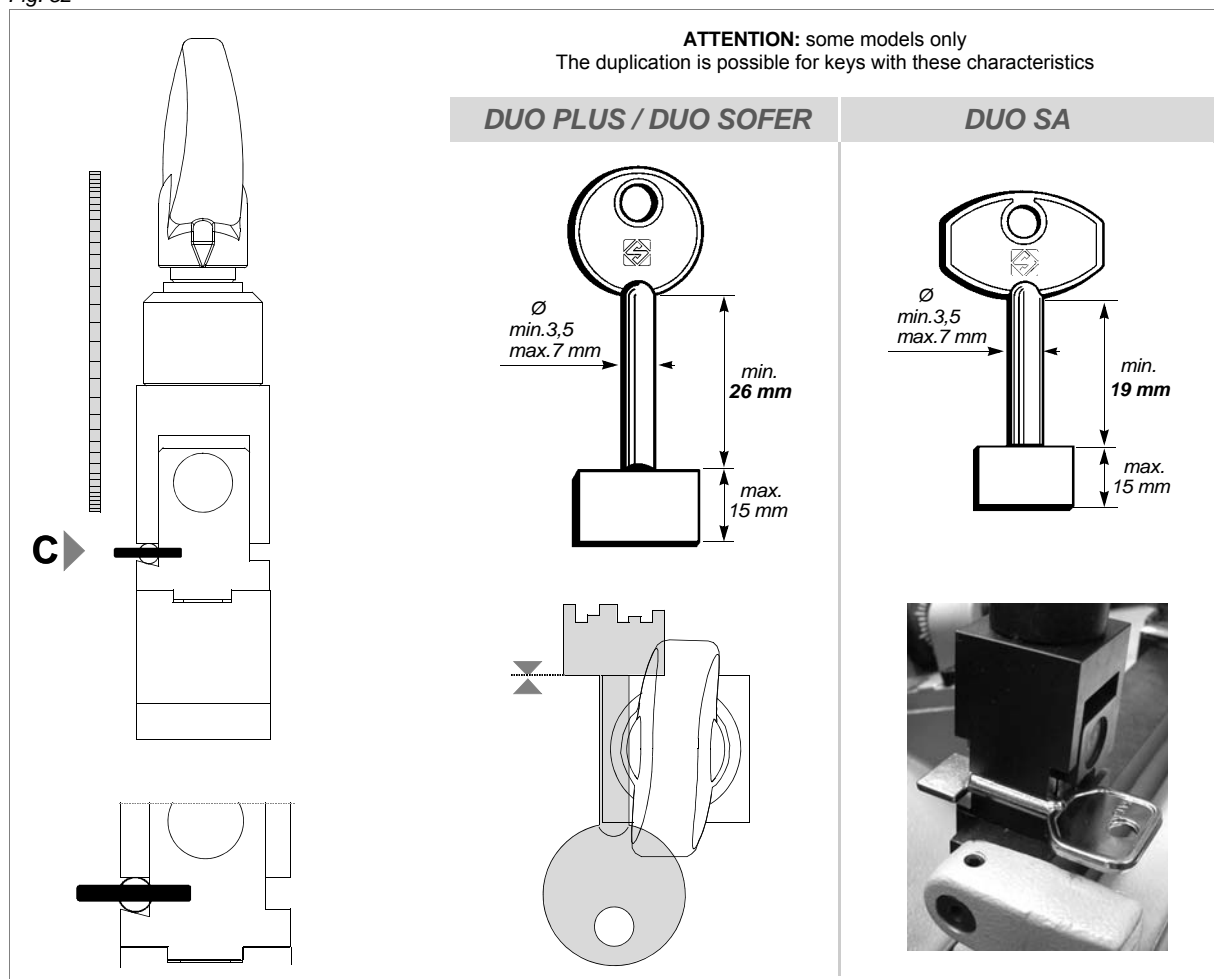

Fig. 53
**ATTENTION: some models only (see fig. 53).**